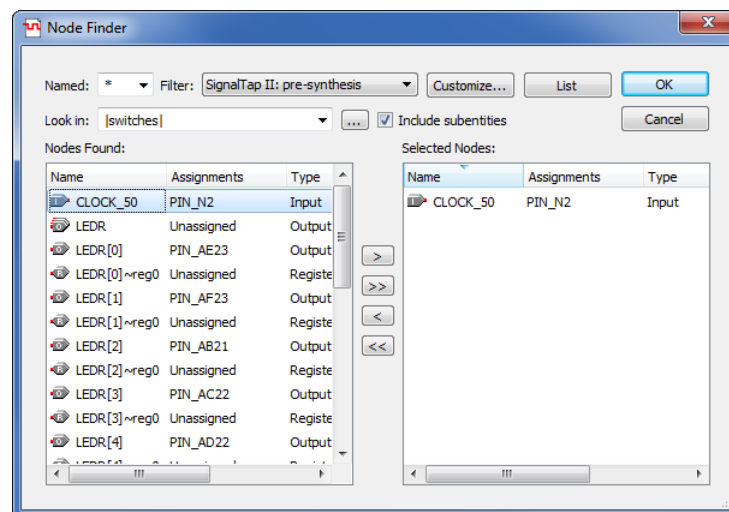

Figure 8. Setting **CLOCK\_50** as the clock for the SignalTap instance on a DE-series board.
- Before the SignalTap analyzer can work, we need to specify what clock is going to run the SignalTap module that will be instantiated within our design. To do this, in the Clock box of the Signal Configuration pane of the SignalTap window, click ..., which will again bring up the Node Finder window. Select List to display all the nodes that can be added as the clock, and then double-click **CLOCK\_50**, which results in the image shown in Figure 8. Click OK.